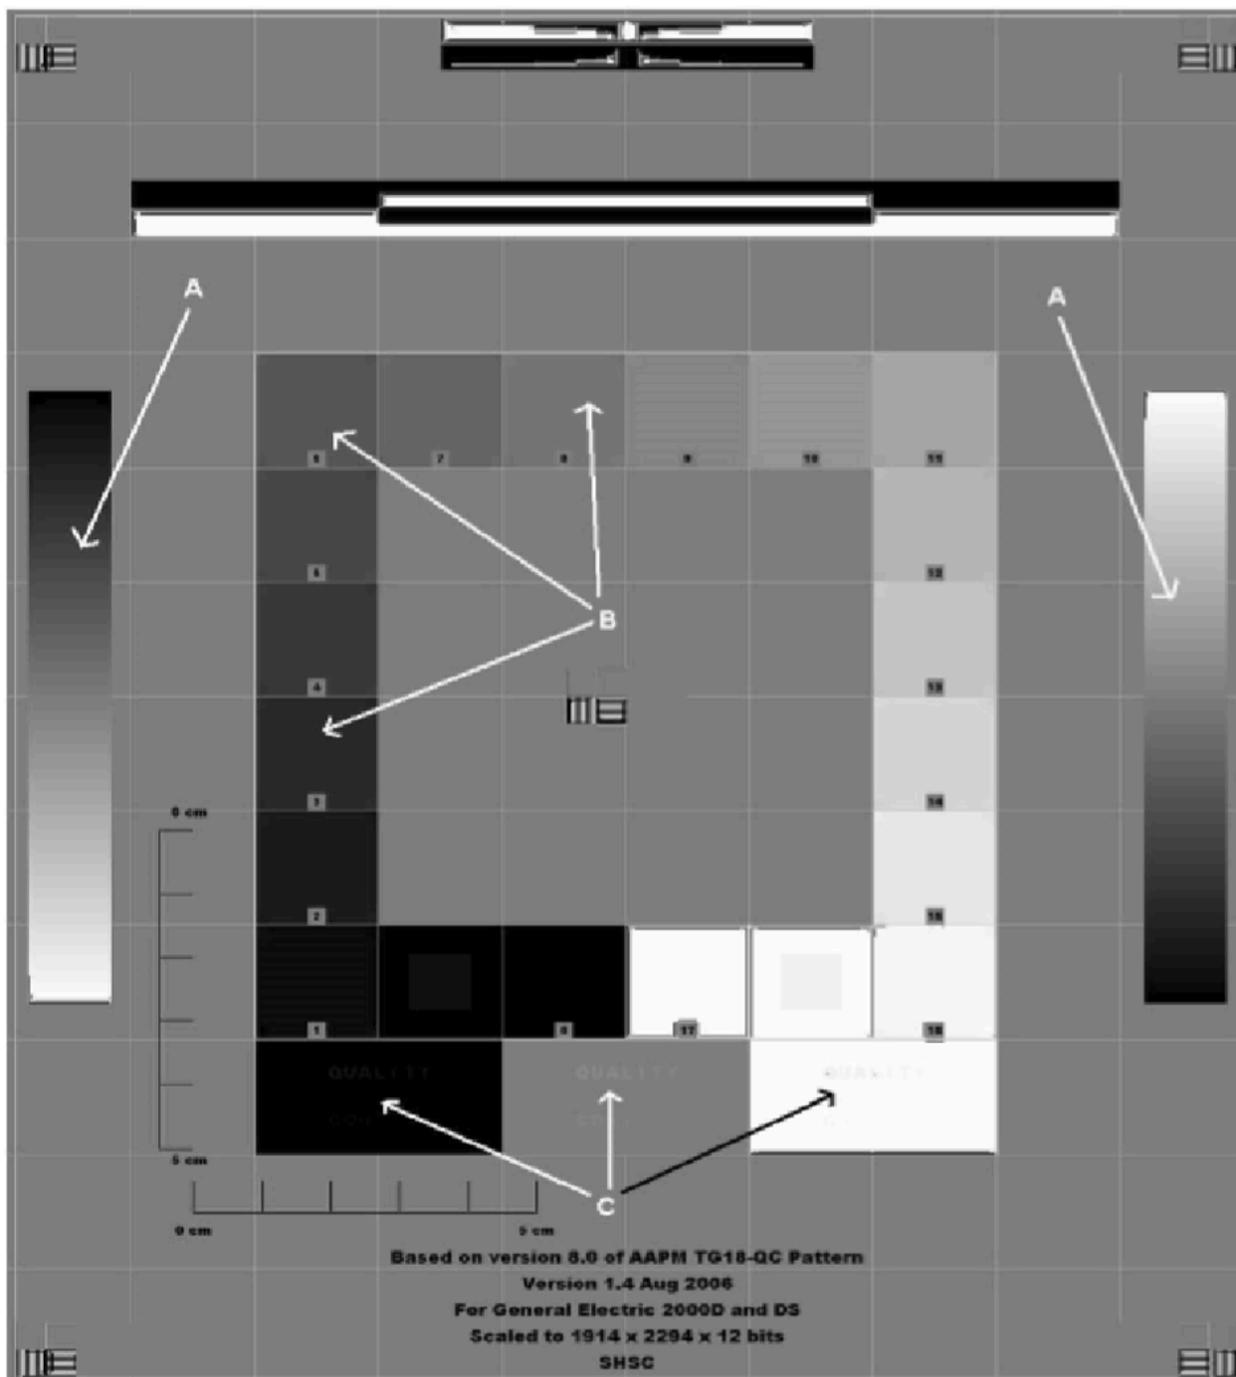

Figure 4: TG18-QC pattern with vertical gray-scale bars (A), luminance (B), and lettering (C) indicated.
6. Evaluate subjectively the following aspects of the image (see **Figure 4**):
- Confirm that the vertical grayscale ramps that go from black to white along the sides of the pattern (regions A on **Figure 4**) demonstrate a smooth and continuous variation in brightness.
- The luminance squares frame the central portion of the pattern (regions B on **Figure 4**). They are numbered 2 through 17. Check that each is a distinct shade of gray, different from all the other patches.
d. Lettering (only required for primary display devices/radiologist's workstations): - Examine the text areas below the central region of the pattern (regions C on **Figure 4**). Letters spelling "QUALITY CONTROL" are printed in progressively fainter text over the backgrounds. Record the number of letters visible over the following backgrounds on.